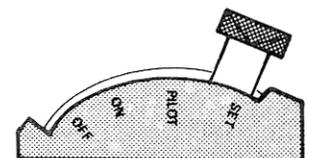
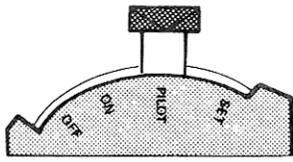

FIGURE 2
FIGURE 3
- DO NOT** insert any object other than suitable pipe or tubing in the inlet or outlet of this control. Internal damage may occur and result in a hazardous condition. A backup wrench should only be used on the wrench boss provided for this purpose (see figure 2 on previous page), never on body of the control, as this could distort the casting. **NOTE:** Do not overtighten any pipe connections, as this could crack the valve body. A valve with a cracked valve body will not be warrantied.
- If you don't smell gas, hold match at pilot burner. **WARNING:** If pilot lights without moving selector arm to the "set" position, replace control. Push selector arm to the "set" position and hold it while lighting the pilot burner. (See figure 2.) Allow pilot to burn approximately 1 minute. If pilot does not remain lit after returning selector arm to "pilot" position, (see figure 3), repeat operation allowing longer period before releasing the selector arm. (Adjust pilot, if necessary, as noted under Pilot Burner Adjustment:.) The thermocouple may also be defective and should be checked (see Service Instructions).